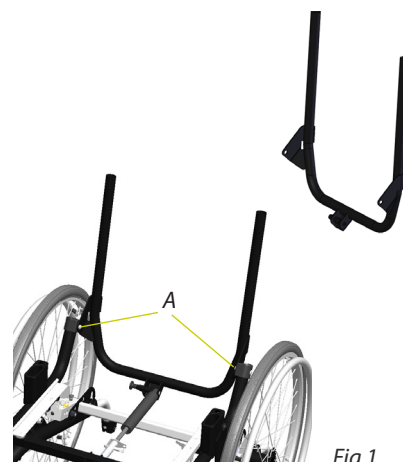

Fig 1
4. Remove the retaining rings on the inside of the back system attachment points (A, fig1). Tap the pins so that the back frame can be lifted off. **NOTE!** It is not necessary to remove the pins completely in order to release the back frame.